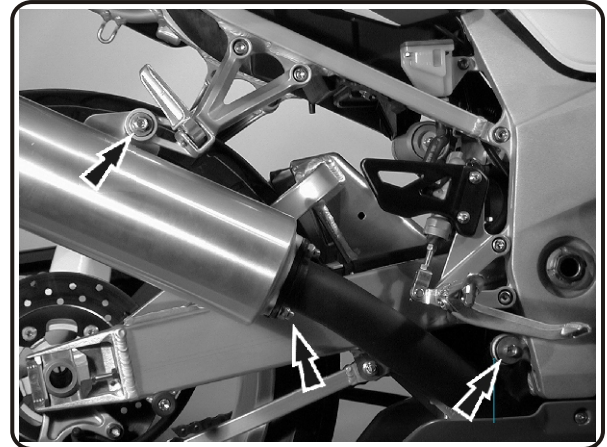

Fig. 1
- 1 Remove stock muffler and gasket. (See Fig.1)
- 2 Loosen tailpipe bolt at chassis mount (See Fig.1)